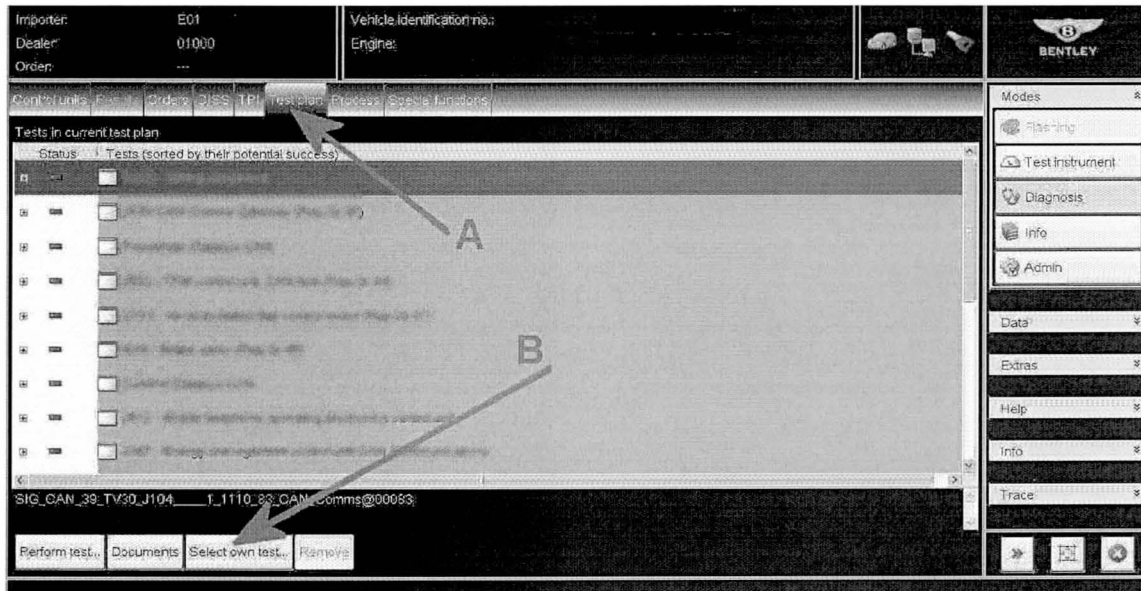
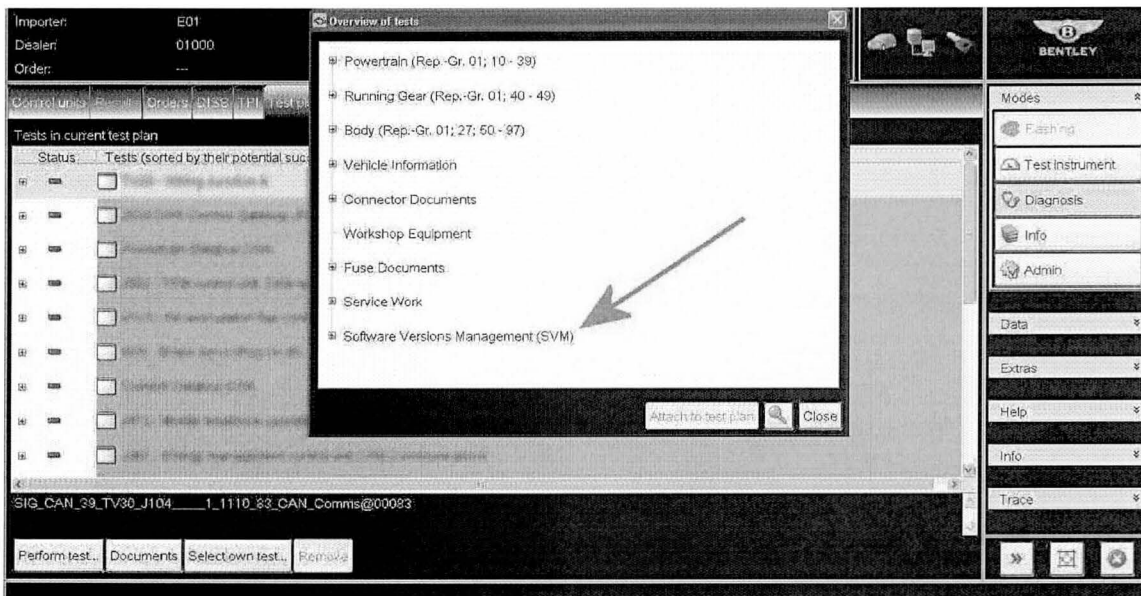
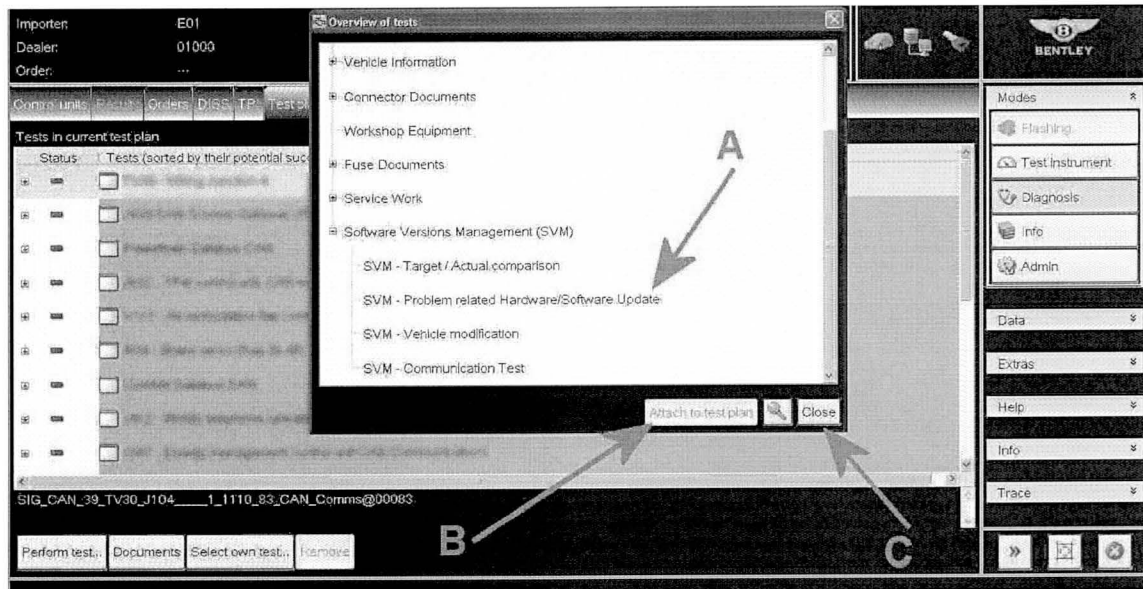

Figure 5
Figure 6
Figure 7
-Once the Guided Fault Finding is complete, Select – Test plan as shown in Figure 5 Point A - Select own test as shown in Figure 5 point B, (the overview of tests screen will now appear as shown in Figure 6)
-Referring to Figure 6 (Overview of tests screen) select + Software Version Management (SVM) a drop down box will now appear as shown in Figure 7
- Referring to Figure 7 – Select SVM – Problem related Hardware/Software Update (Point A)